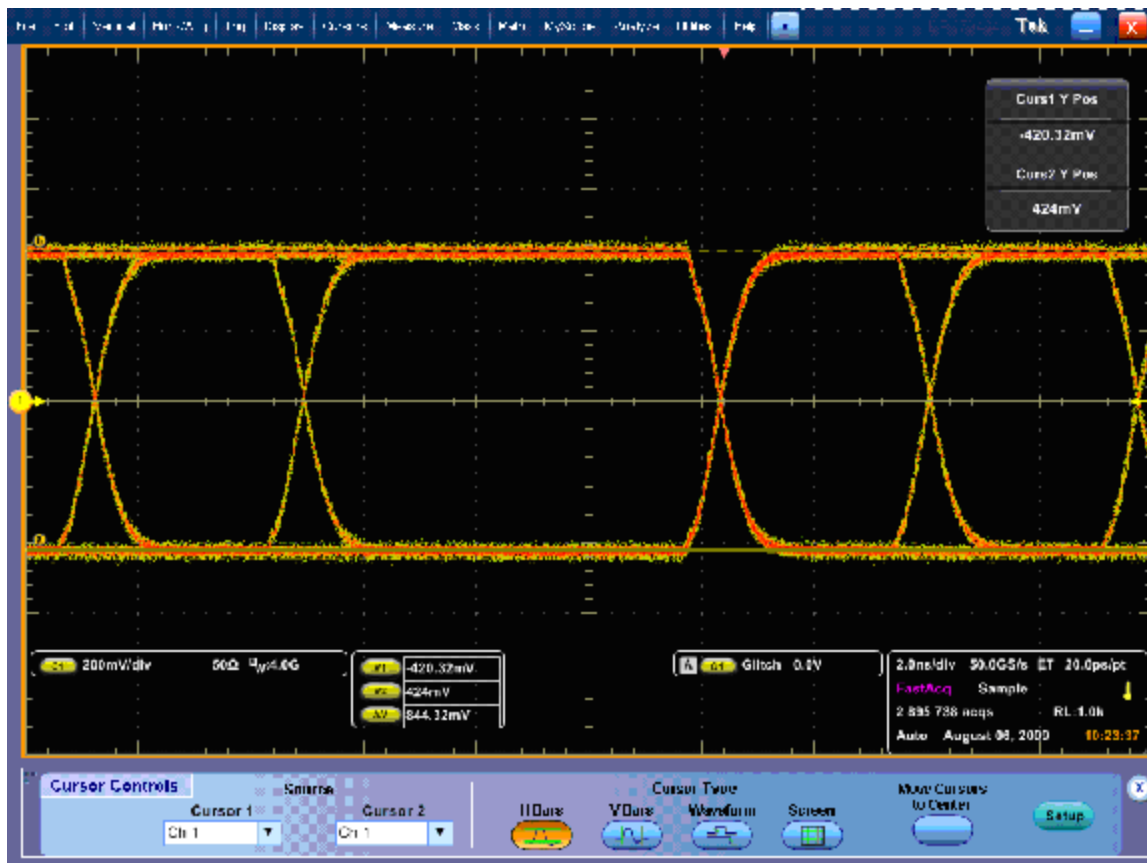

Figure 1: Serial Output at 270 Mb/s, using Glitch Trigger mode
3. Connect a second cable from the Slot 1 SDI A Out to CH 1 of the test oscilloscope. A waveform should be observed on the test oscilloscope. (See Figure 1.).